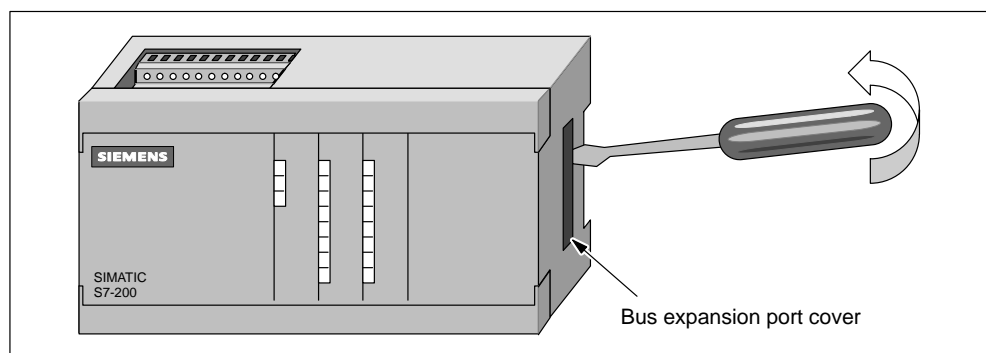

Figure 2-9 Removing the Bus Expansion Port Cover on an S7-200 CPU Module
1. Remove the bus expansion port cover from the existing module housing by inserting a screwdriver into the space between the bus expansion port cover and the housing, and gently prying. Ensure that the plastic connecting joints are completely removed. Use caution not to damage the module. Figure 2-9 shows proper screwdriver placement.